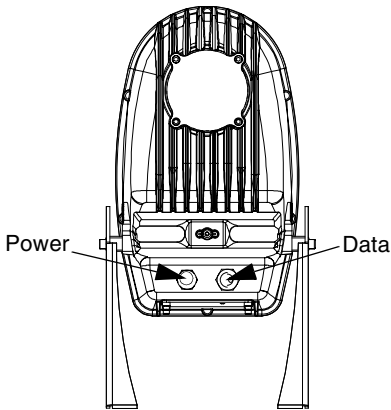

Figure 6 Power and Data connections
2. Attach conduit (see “Wire Routing”, page 9 for specifications) to fixture at power connection, see Figure 6.
1. Run conduit separate from power supply from the XLR wall panel to the data connection of the fixture, (see Figure 6 on page 13).
1. Run data conduit separate from power supply conduit from the XLR wall panel along the link. Install a junction box for each fixture. Run flexible conduit from each junction box to the data connection of its designated fixture, see Figure 6 on page 13.